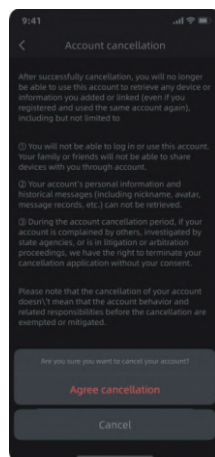

Figure 11
11) Figure 11: Click "**Agree cancellation**" to cancel the account, return to the login page, and no longer be able to log in with this account; Click "**Cancel**" to keep the account.